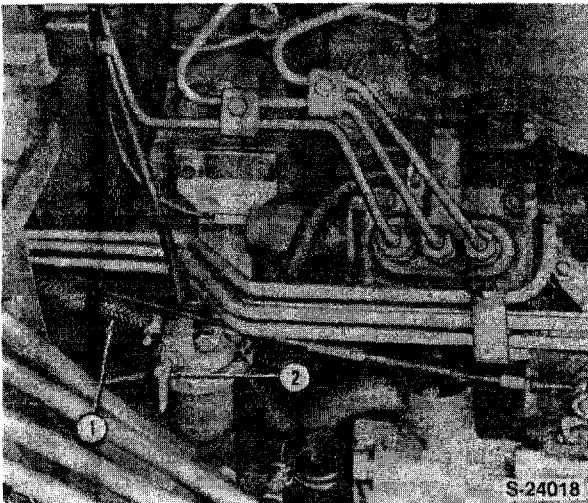

Figure 13
11. Remove the fuel hose (1) from the fuel shut-off valve and filter and drain the fuel into a clean container, Figure 13.